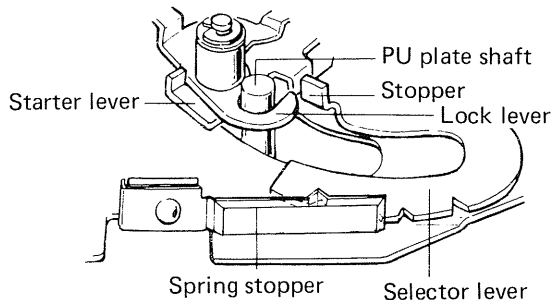

Fig. 6
5. The starter lever is brought to a stop by the selector plate stopper (Fig. 6).